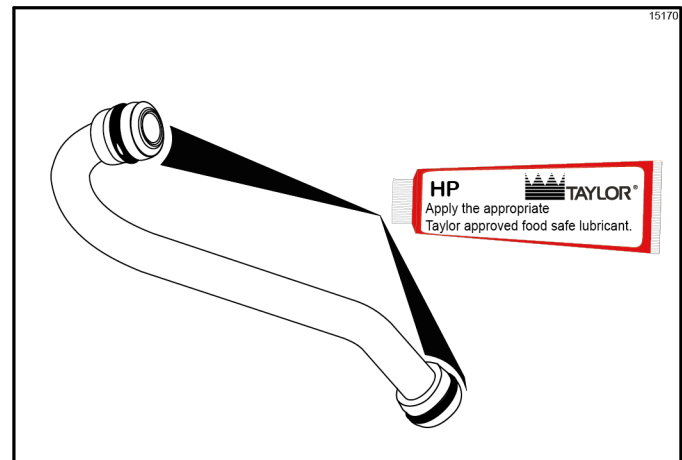

Figure 6-27
11. Install one O-ring on each end of the mix feed tube and thoroughly lubricate. (See Figure 6-27.)